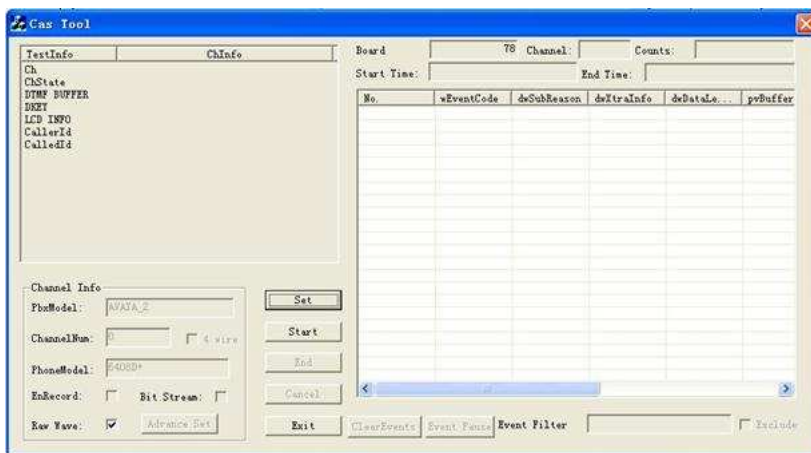

Figure 2-24
Step 4: Now the 'Start' button is activated as shown in Figure 2-24.